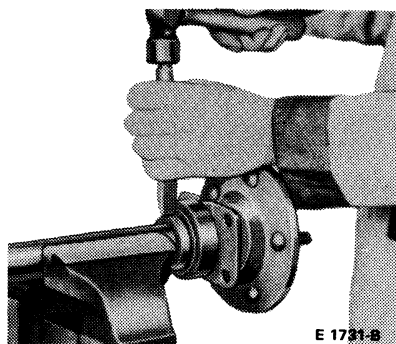

FIG. 2 Removing Rear Wheel Bearing Retainer Ring
1. Loosen the inner retainer ring by nicking it, deeply with a cold chisel in several places (Fig. 2). It will then slide off easily.